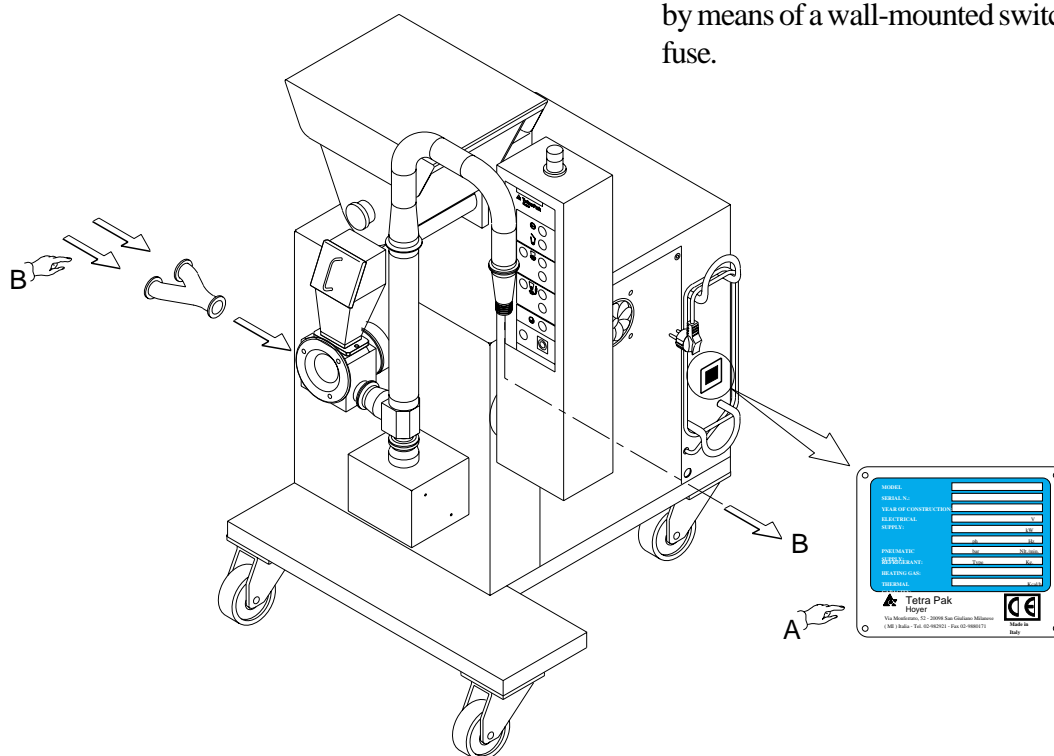

Fig. 4.4
- Position the machine at the place of production and check the identification plate data to make sure that the machine is compatible with the electrical power supply (*Pos.A, Fig.4.4*).
- Connect the ice-cream inlet and outlet pipes to the pump body (*Pos.B, Fig.4.4*).